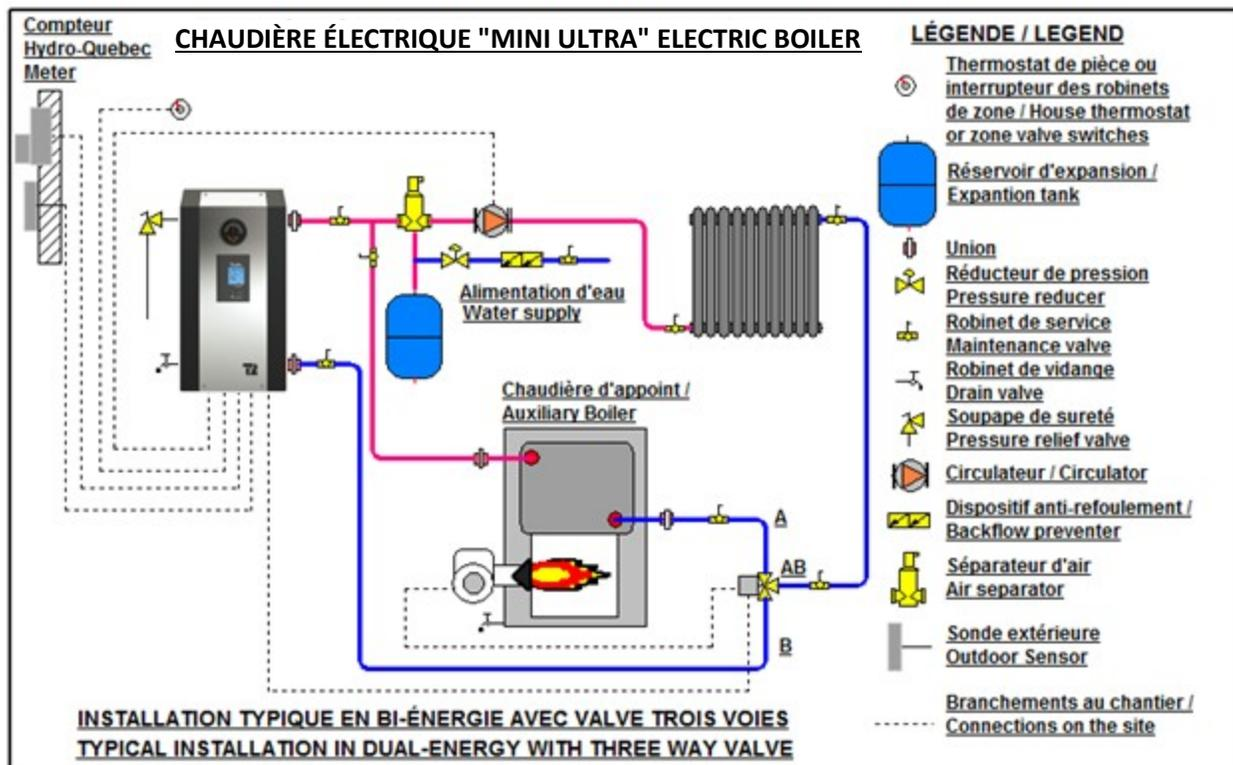

Figure 7 : Typical installation for dual-energy with three-way valve (USA models only)
- **If the piping installation is made as shown on fig.7 without a three-way valve:**